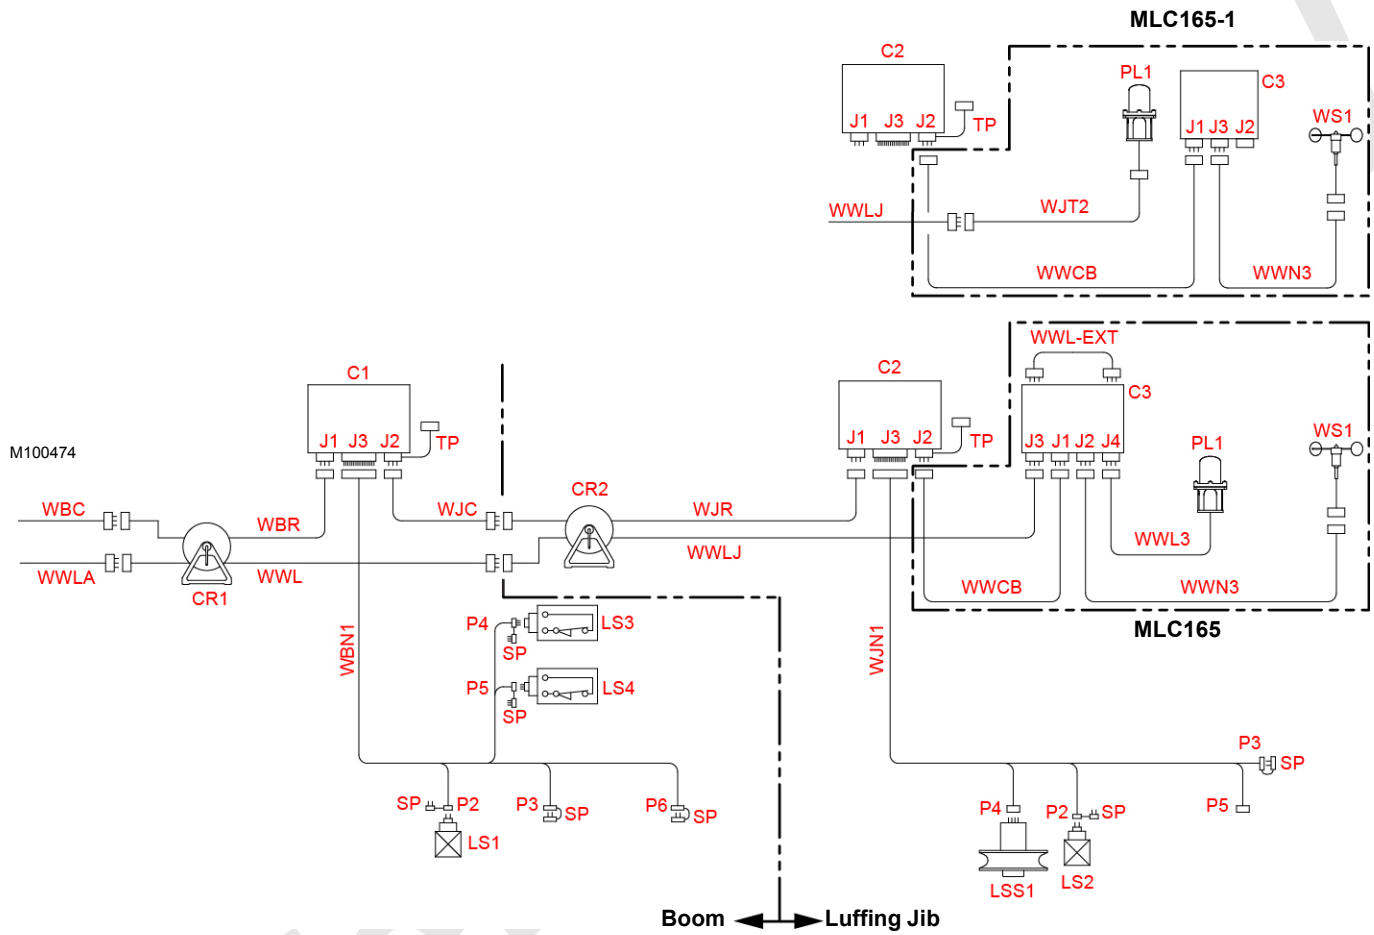

FIGURE 6-8
To ensure proper operation of the components in the luffing jib point, the electric cables must be connected properly (Figure 6-8).
Legend for Figure 6-8
See Figure 6-8
- f. Check that all electric cables, shorting plugs, and terminating plugs are securely fastened (Figure 6-8).